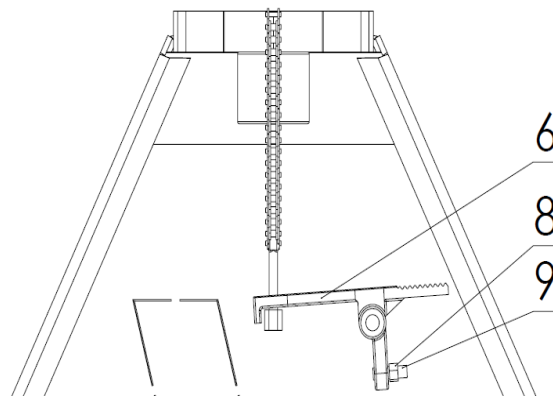

Figure 4
- Complete the assembly by inserting the nut on the chain into the jaw located on the pedal part (See figure 4, part number 6).
- ▶ Figure 4, 9 hydraulic oil pressure adjustment screw is used to adjust the lowering speed of the pallet truck.
- ▶ The outer hexagonal nut (see figure 4, item 8) on the hydraulic oil pressure adjustment screw performs the fixing function of the hydraulic oil pressure adjustment screw. After the lowering speed is adjusted as desired, the adjustment process is completed when the hexagonal nut number 8 is tightened by reattaching it to the hydraulic oil pressure adjustment screw.